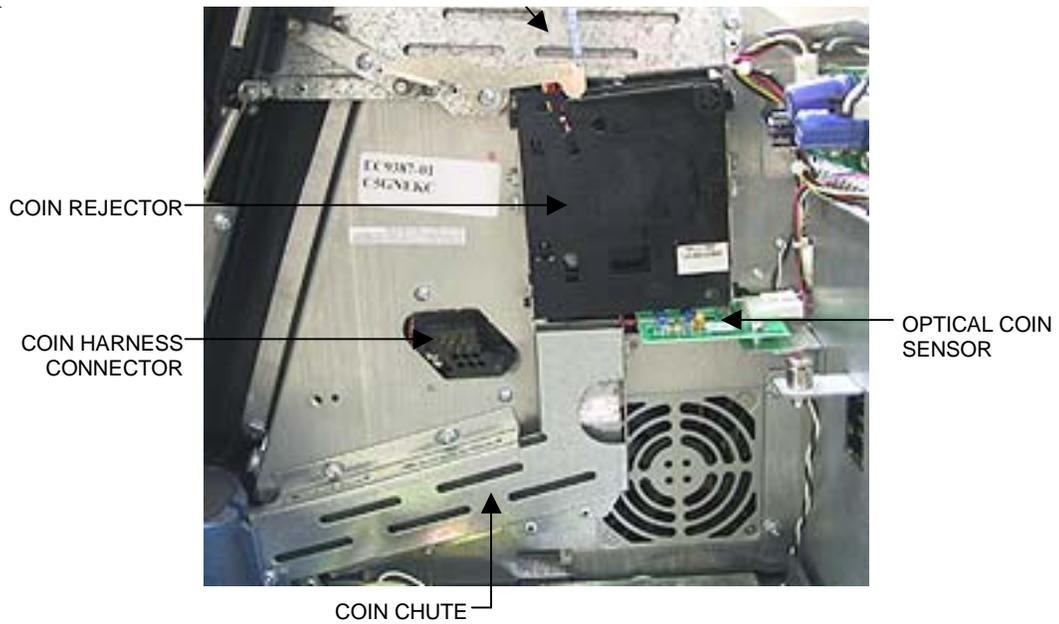

FIGURE 5 - MONITOR REMOVAL
3. Remove the screw and washer fastening the strain relief cord, then remove the remaining 5 screws fastening the LCD mounting bracket to the game and remove the bracket. Refer to Figure 4 for monitors with interior circuit boards and Figure 5 for monitors with exterior circuit boards. The bracket will not be reused.